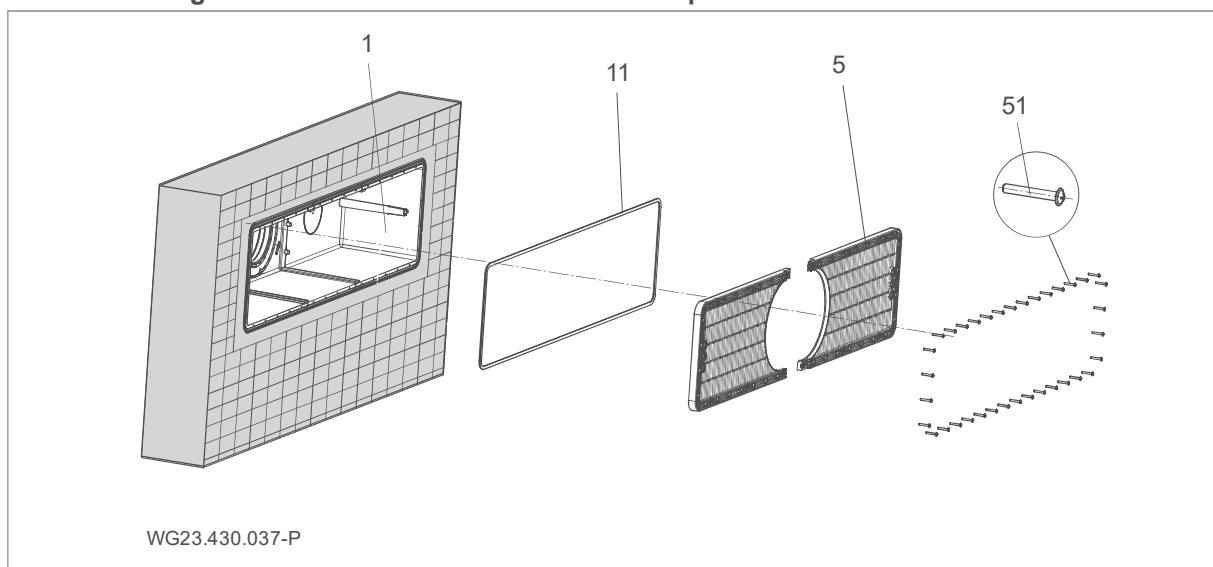

Fig. 8
It is recommended to lay a surrounding ring of epoxy resin/quartz sand at the pool-side outside wall of the housing (1) as a seal to the concrete wall. Siehe "Fig. 8" auf Seite 17.